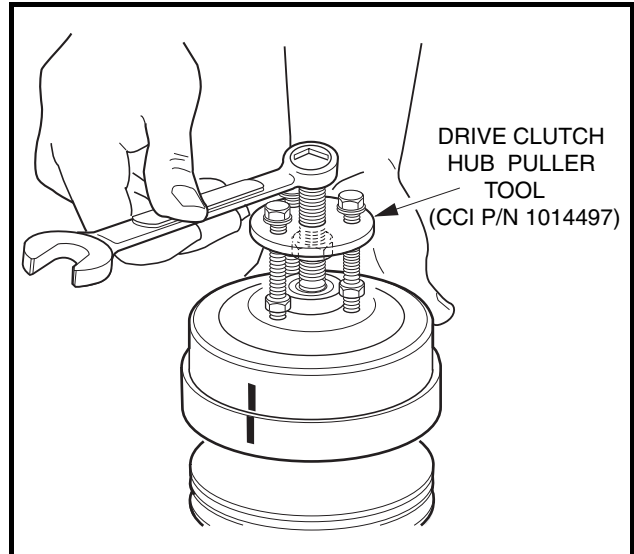

Figure 17-6 Remove Clutch Drive Hub
- 2.2. Thread the center bolt of the Drive Clutch Hub Puller (CCI P/N 1014497) into clutch until the stop nut touches the clutch hub or the bolt bottoms out, then back the bolt out one-half turn (**Figure 17-6, Page 17-7**).
- 2.3. Thread the three small bolts of the puller into the puller attachment holes in the clutch. Tighten bolts evenly, making sure the face of the puller plate is parallel to the clutch face (**Figure 17-6, Page 17-7**).